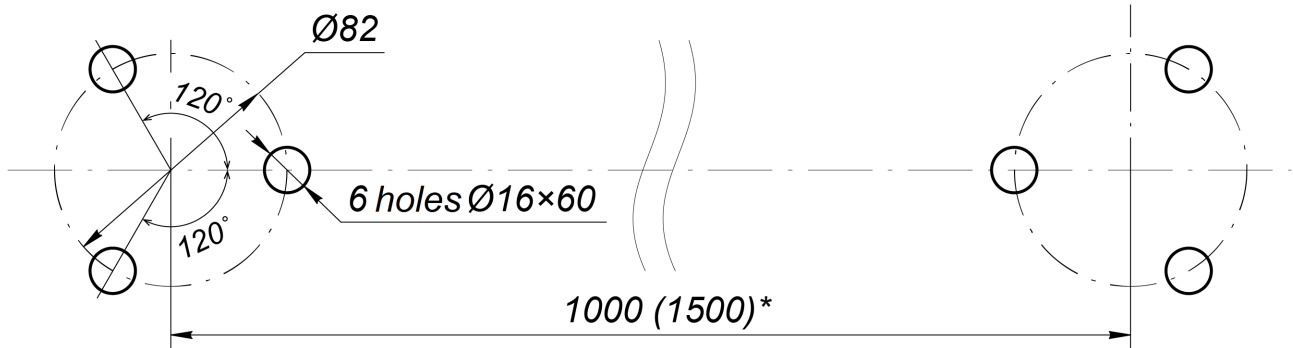

Figure 12. Location of holes for anchor bolts in the flanges
- Put the first post in the required place so that coupling fitting's location would correspond with the required rails position. Mark out three installation holes for anchor bolts through the holes in the flange (see Figure 12). Put the post down.